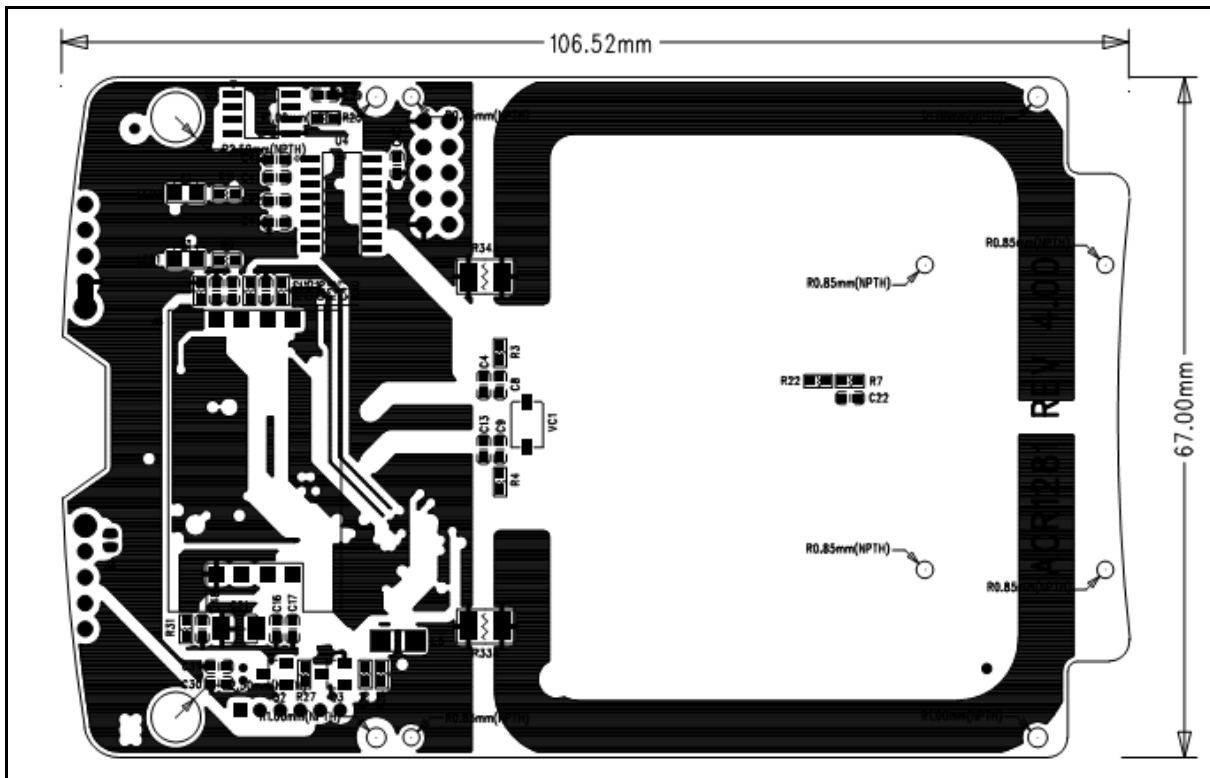

Figure 1: ACM1281 Main Board
- Figure 1 : ACM1281 Main Board..... 3**